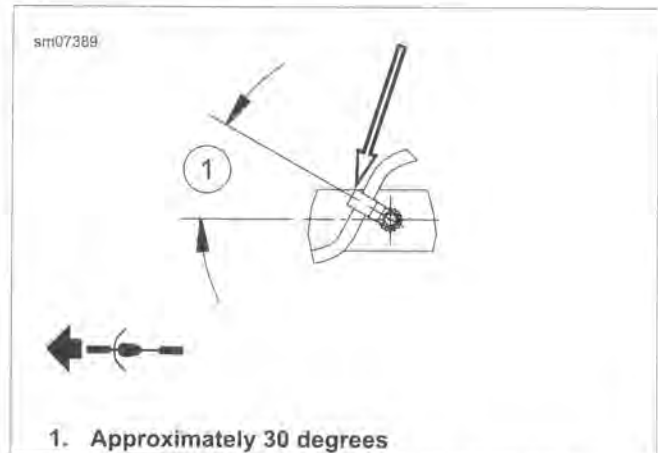

Figure 2-76. Brake Line J-Clip at Rear Fork
5. See Figure 2-76. If removed, align J-clip as shown and install screw. Tighten to 40-60 in-lbs (4.5-6.8 Nm). Do not allow clip to pass above top of rear fork.